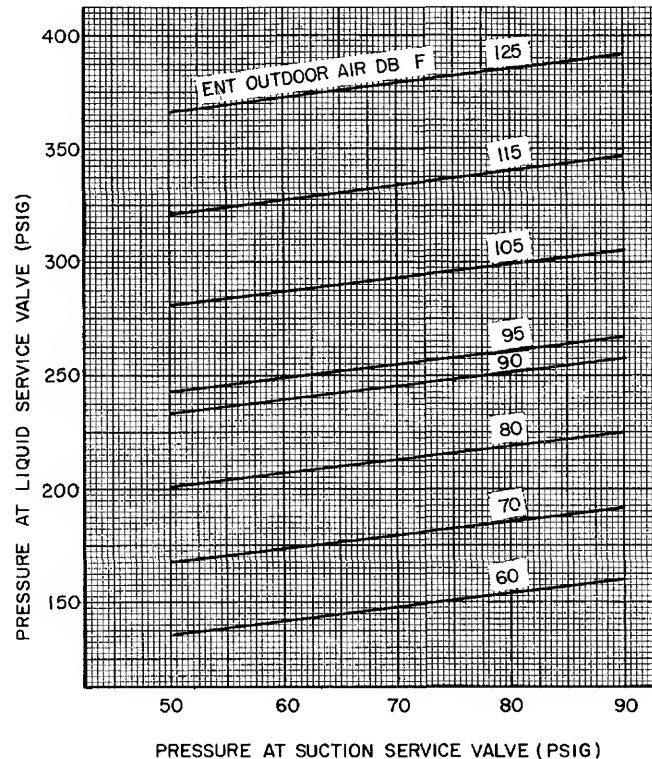
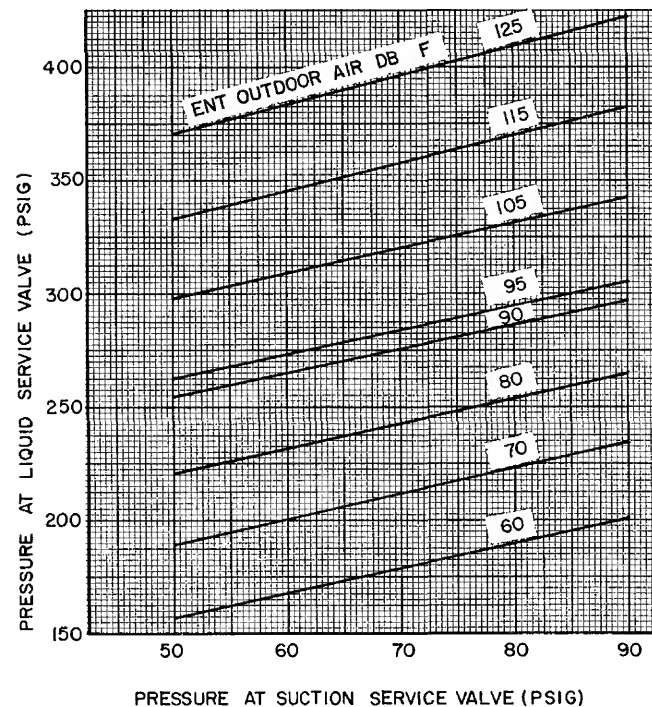

Fig. 4 — 38GR002,003,004,045,005 Charging Chart — TXV Systems
Fig. 5 — 38GR006 Charging Chart — TXV Systems
**38GR THERMAL EXPANSION VALVE SYSTEMS** — Use Charging Chart, Fig. 4 or Fig. 5. See Carrier Standard Service Techniques Manual, Chapter 1, for procedure.